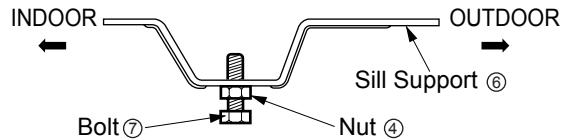

Fig. 3
3. Loosely assemble the Sill Support® using the parts . (Fig. 3)